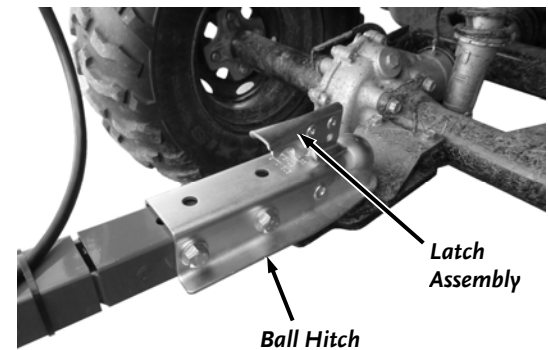

Figure 34
2. Pull the Latch Assembly up and into the open position. Position the Ball Hitch onto the tow vehicle's tow ball (must be a 2" tow ball) (**Figure 34**).